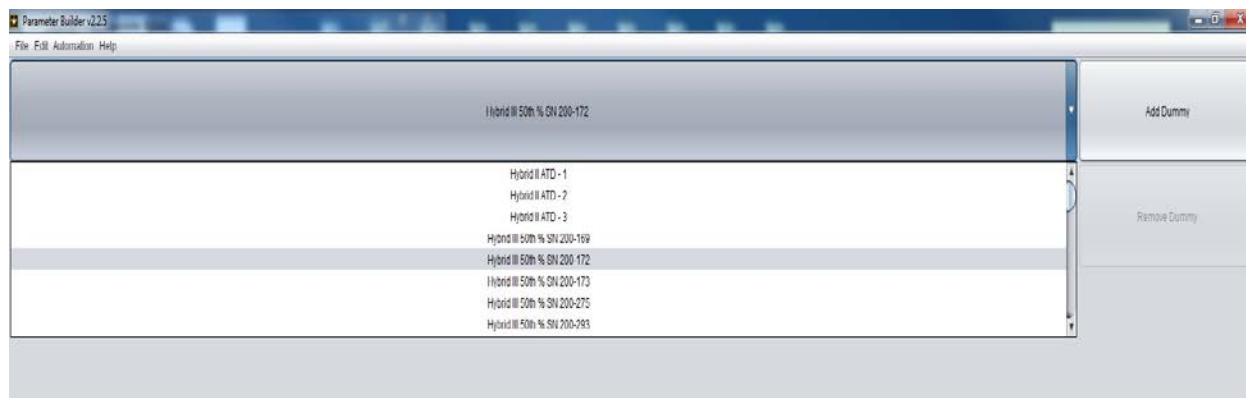
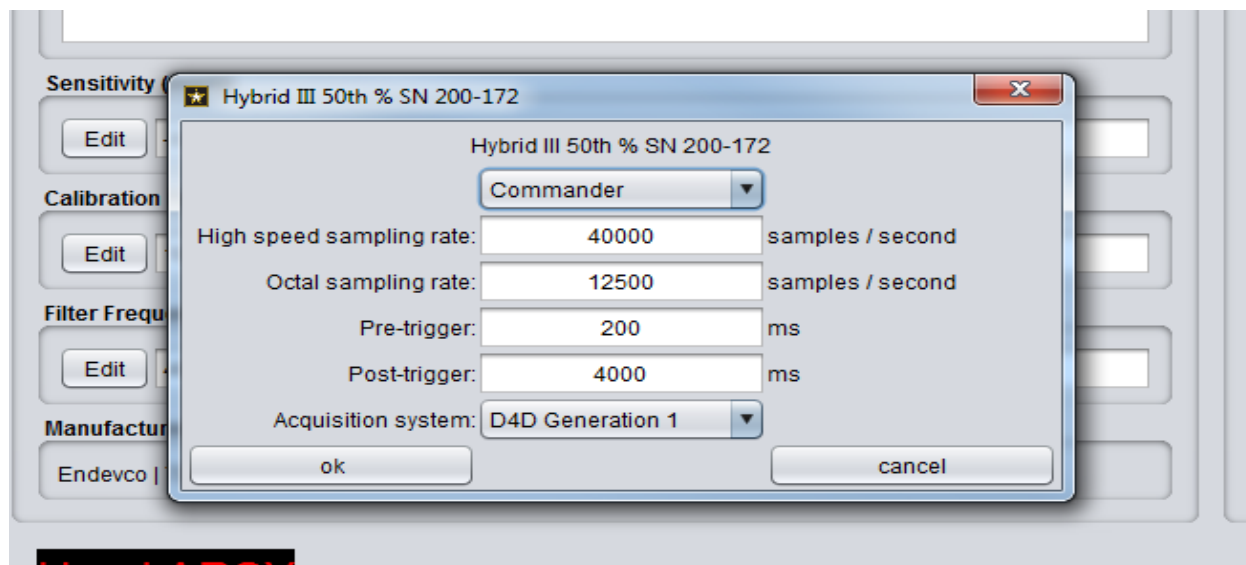

Figure 1. Select ATD from drop-down menu.
Figure 2. Crew member selection and acquisition system selection.
a. To begin using the D4D, an ATD needs to be selected and its parameters need to be downloaded. To download the parameters, the Parameter Builder application that was developed by the Ballistics Engineering, Support, and Technology (BEST) Division, of the U.S. Army Aberdeen Test Center (ATC), needs to be downloaded and installed if not already on the personal computer (PC). The Parameter Builder application is typically located on the desktop, but if it is not, it can be downloaded via the BEST Apps application page (<http://best.atc.army.mil>). This is an ATC only website, and permission to access the site can be obtained from the ATC Ballistics Instrumentation Division (TEDT-AT-SLB). Open the Parameter Builder application and from the drop down menu select the ATD serial number and click Add Dummy (Figure 1). In the menu that comes up, select the crew member position and make sure D4D Generation 1 is selected for the acquisition system (Figure 2). Repeat this step for all ATDs that are being used in the test.